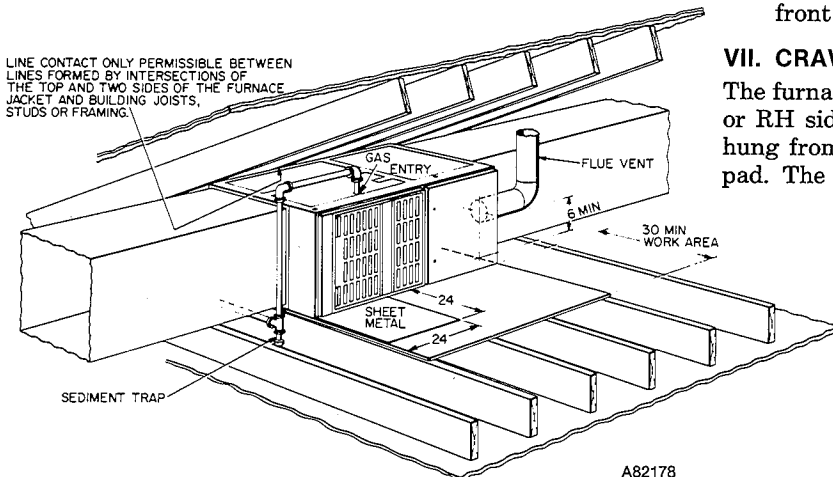

Fig. 8—Typical Attic Installation
The furnace can be installed horizontally on either the LH or RH side. A typical attic installation is shown in Fig. 8.
2. Connect gas supply pipe. See Fig. 8 for typical piping entry. It is important to install a sediment trap in the gas pipe riser.
4. Install 24-x24-in. sheet metal shield on platform in front of louvered control panel, as shown in Fig. 8.